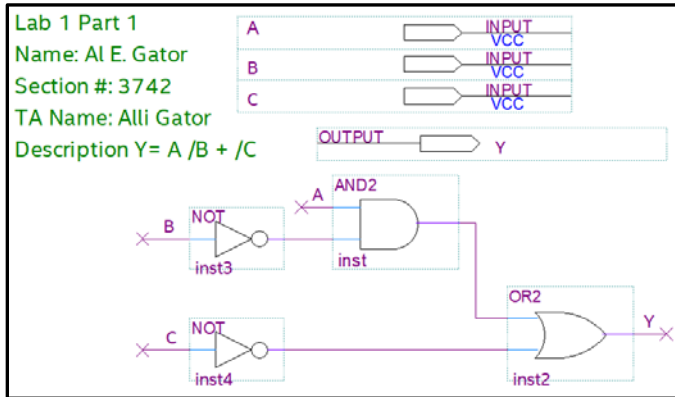

Figure 4: Bdf with inputs and outputs
1. In the same manner that you placed a gate onto the bdf, add three input pins from the “Symbol” libraries. Input pins can be found under “primitives | pin | inputs” (or just type **input** just as you typed **not** previously in the “Name:” box). I suggest placing these inputs together, above your logic diagram and just to the right of your name as shown in Figure 4.
3. In the same manner and in the same library that you found the input pins, add an output pin from the “Symbol” library. I put this output pin under and to the right of the input pins. Change the pin name to ‘Y’ on the output port, as shown in Figure 4.
- The “A” label will connect the input labeled “A” to this wire. Similar connections are made by the labels on the other inputs and output. The bdf should look similar to Figure 4.